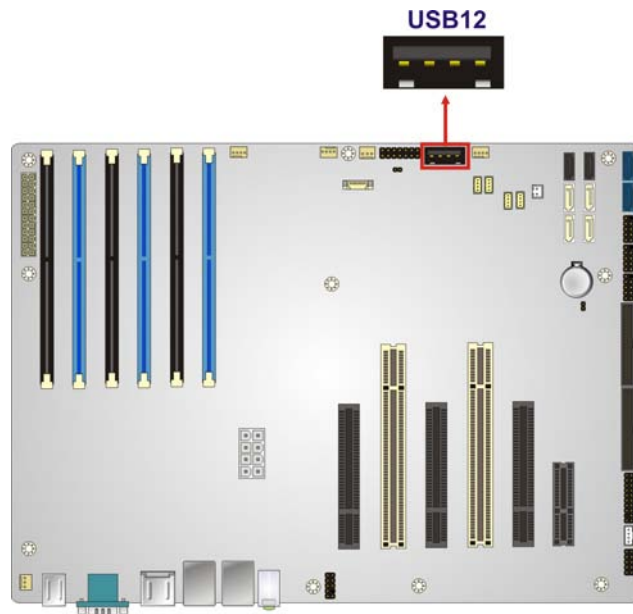

Figure 3-27: USB Connector Pinout Locations
- CN Location: See **Figure 3-27**